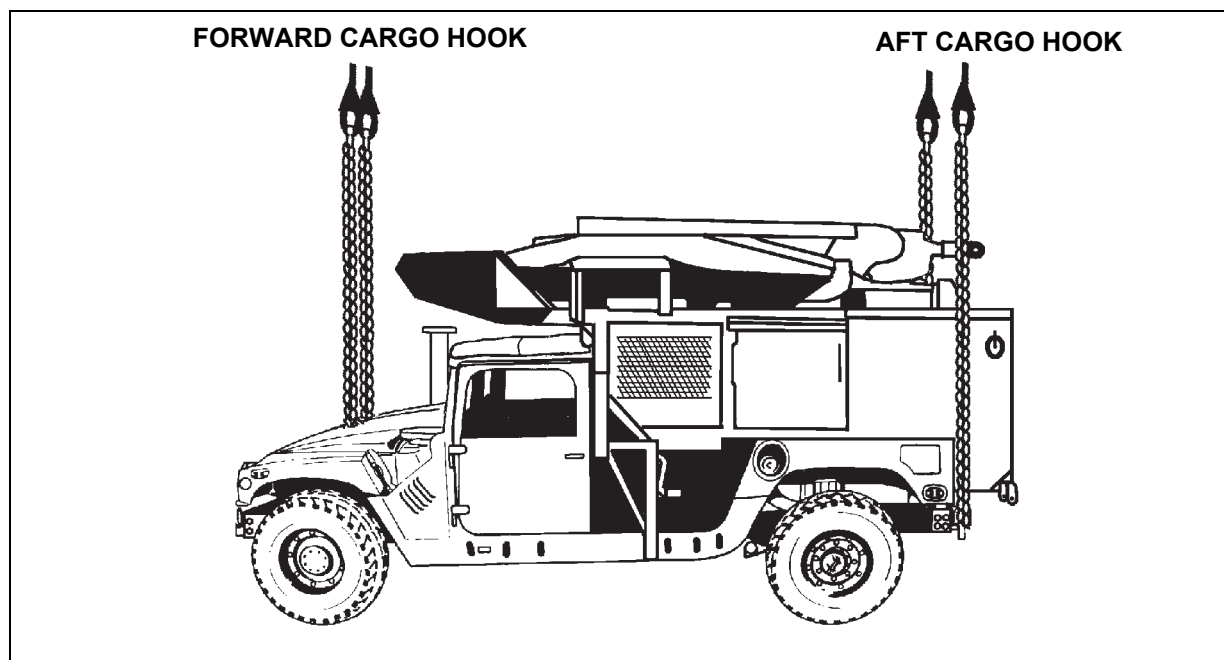

Figure 6-14. Dual-Point Load
- Some loads can be carried in the dual-point configuration. Dual-point loads require an additional apex fitting for the extra sling set (figure 6-14). Dual-point loads have the same sling leg length requirements as listed in paragraph 6-2, page 6-7, for three lift points and page 6-8 for four lift points.